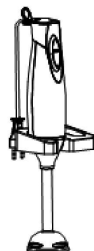

Fig 4
6. Assemble the blender shaft to the motor unit again and place it on the wall mounted bracket upside down (Figure 4) or hang it to save space.